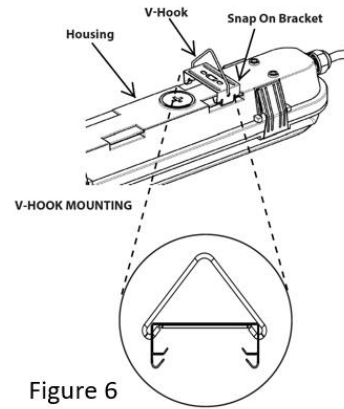

Figure 6
3. **For Chain Mounting:** Attach chains to the mounting structure at the desired location. Snap mounting brackets into the appropriate locations on the back of the fixture. Attach the included V-hooks to the bottoms of the chains and attach the V-hooks to the mounting brackets (See Fig. 6).